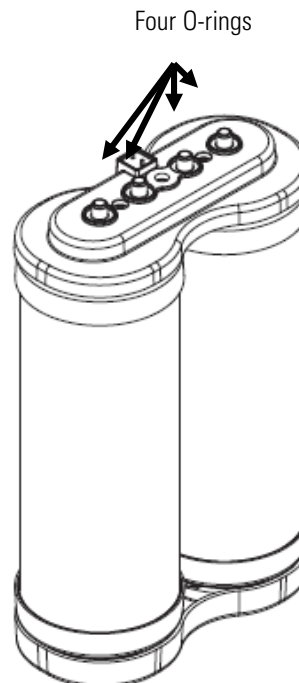

Figure 3-22. Dual Cartridge Pack
2. Verify that each of the four posts on the cartridge pack has an o-ring, as demonstrated in Figure 3-22.